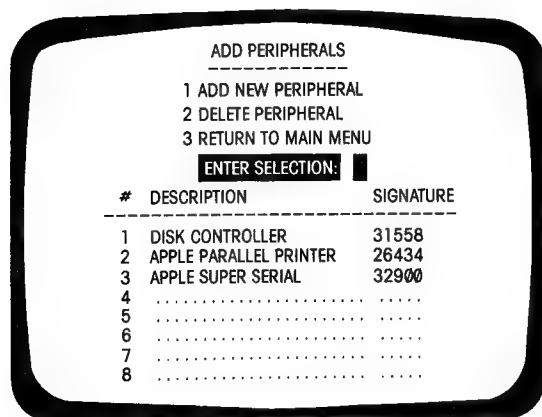

FIG. 11-20 Add peripherals screen.
On the screen (Figure 11-20), you are given three selections: (1) ADD NEW PERIPHERAL, (2) DELETE PERIPHERAL, and (3) RETURN TO MAIN MENU. Beneath this is a listing of what you have already told the program that you have installed, along with the signature code generated earlier by selection F (peripheral cards test). The numbers to the left of the entries do not necessarily indicate the slot number.